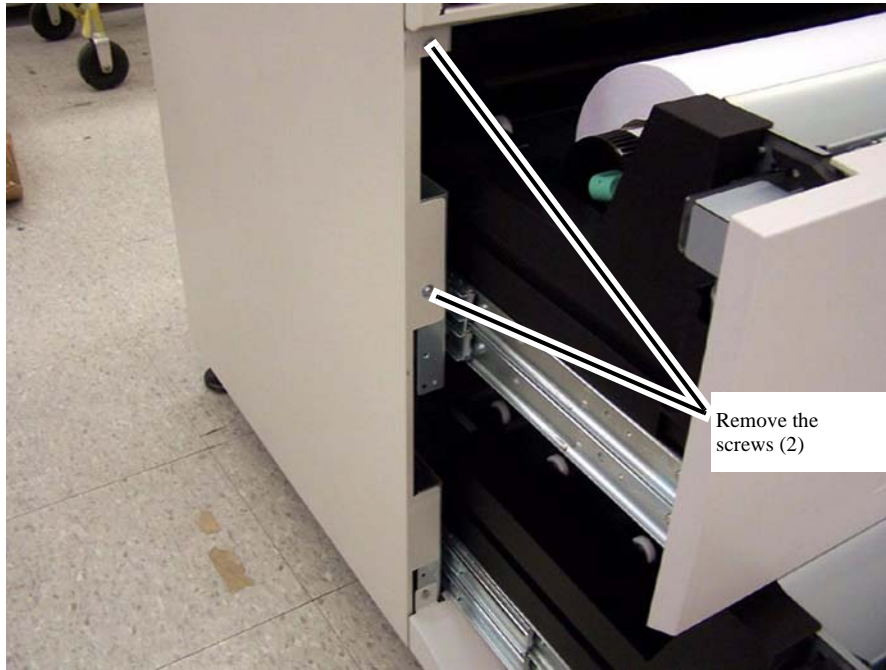

Figure 2 Screw removal at front of Left Lower Cover
4. Remove the front mounting screws (2) (Figure 2).